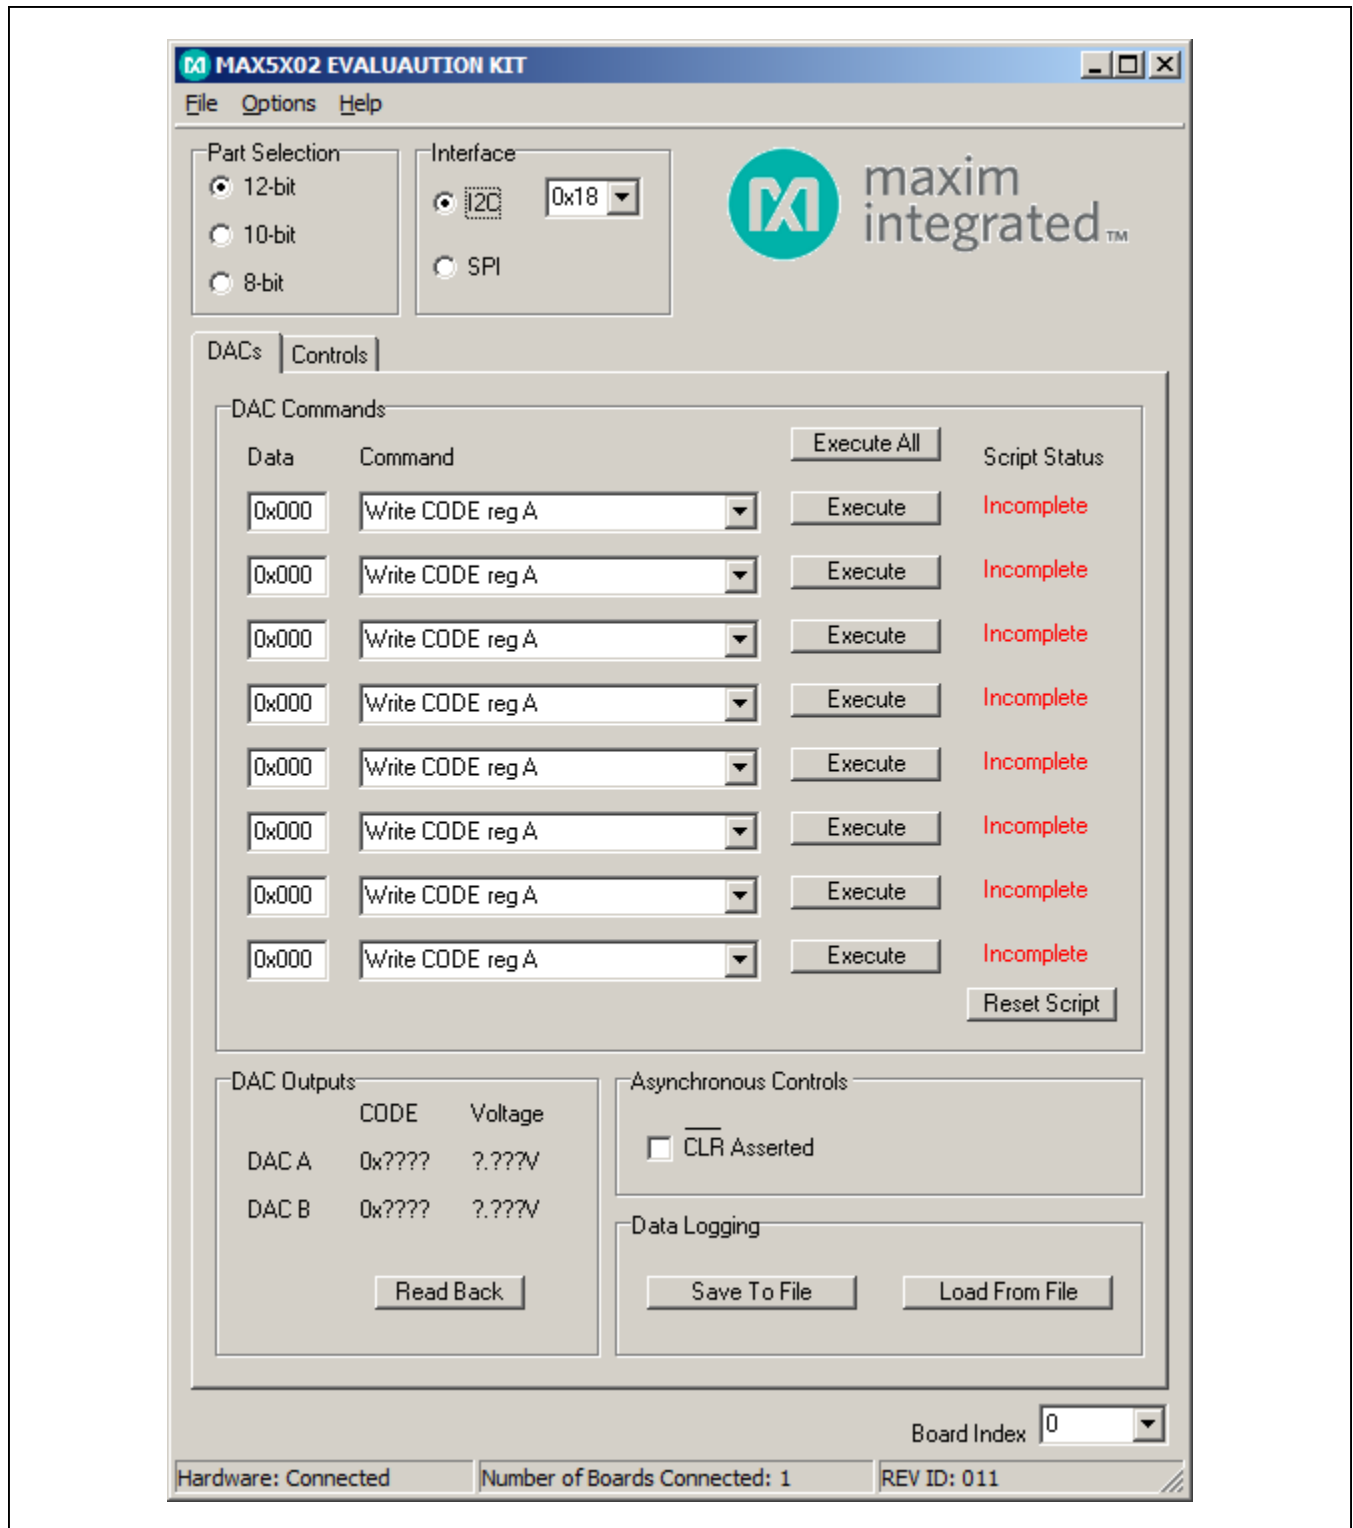

Figure 2. MAX5X02 EV Kit Software Main Window (I2C)
- 10) Select the **I2C** radio button in the **Interface** group box and the GUI automatically detects the I²C address. See Figure 2.